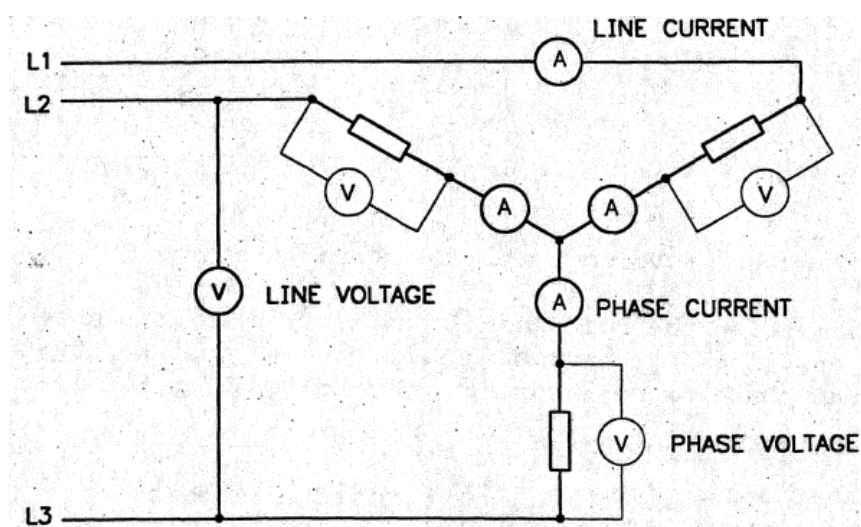

Figure 6 – The voltage and current distribution in a star connection
- 18 If a 415 volt three phase supply is correctly connected to a star connected device the resulting voltage and current distribution is as shown in Figure 6.